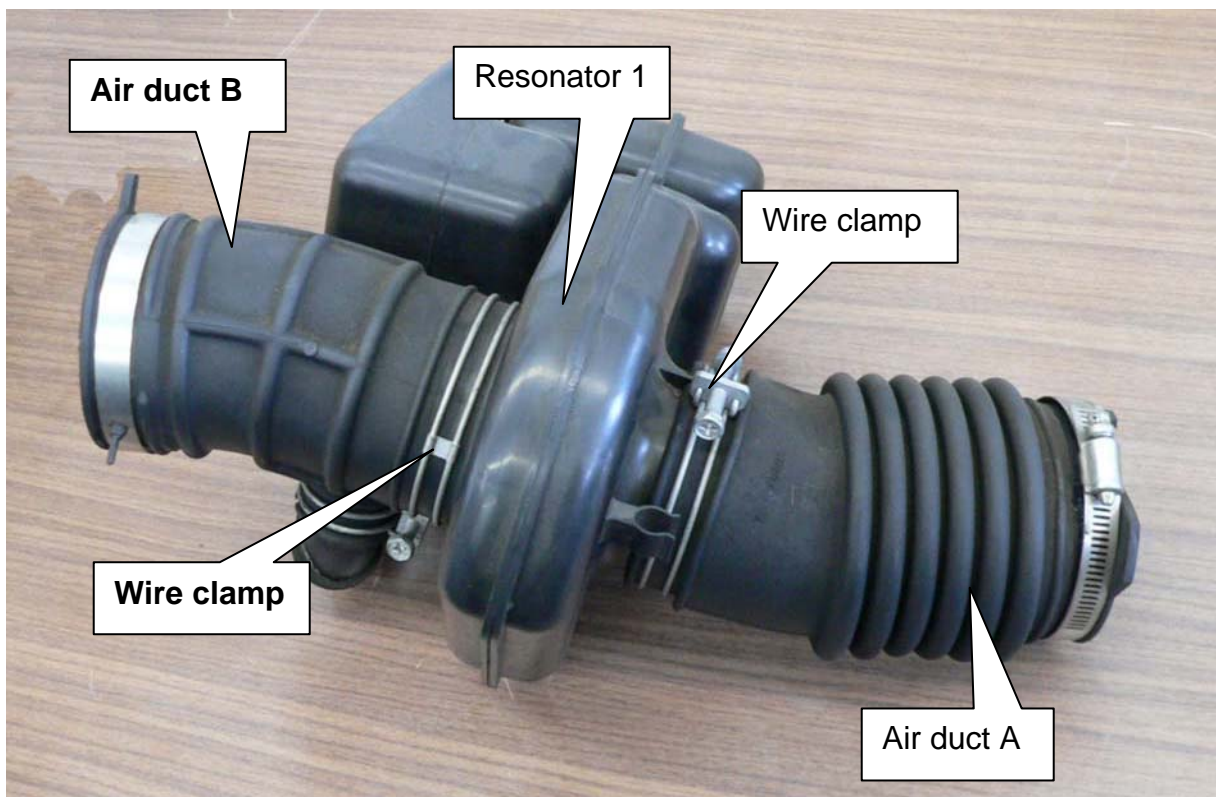

Figure 2
5. Loosen both wire clamps shown in Figure 2 (clamps on both sides of resonator 1).